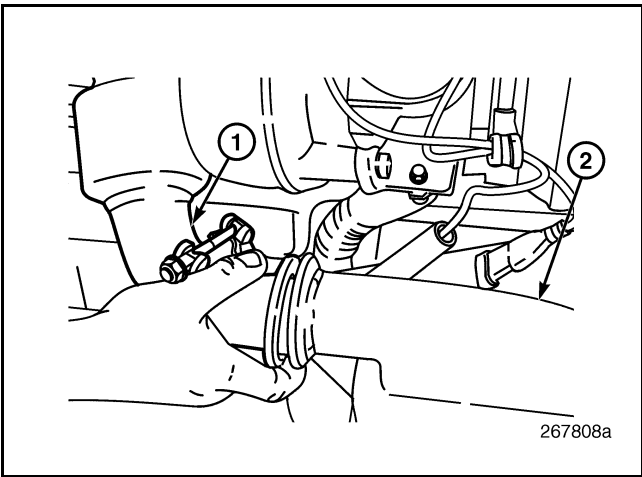

Figure 488 — Hot Tube-to-Cooler Connection
- Loosen and remove the clamp connecting the hot tube-to-EGR cooler inlet flange (Figure 488).